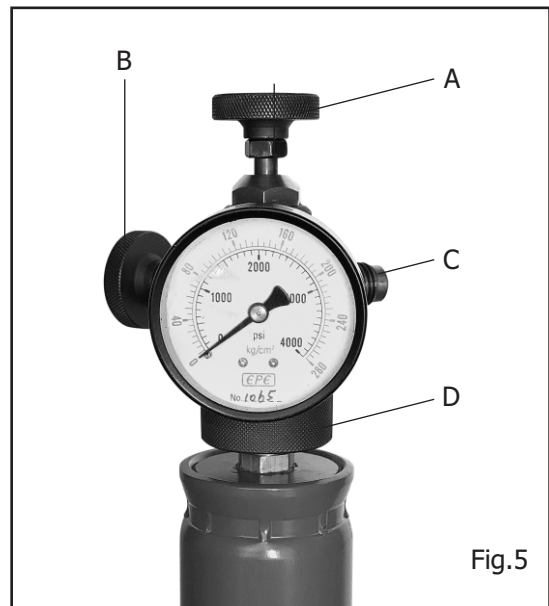
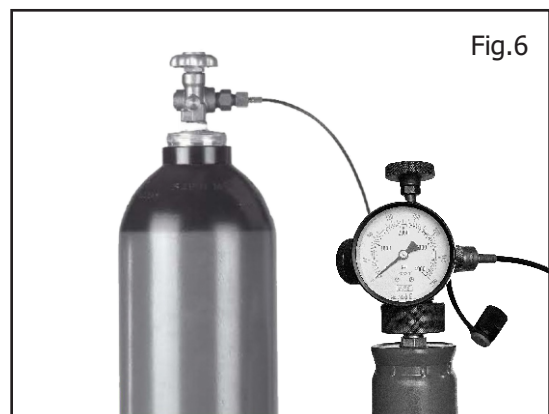

Fig.5
Fig.6
Pre-Loading & Checking Set type-PC (refer Fig.5) is to be used for checking / charging of these accumulators. When charging, the nitrogen bottles must be capable of delivering pressure higher than the desired accumulator gas pressure.
- Prior to the mounting PC/ - equipment ensure that the valve A is unscrewed, that bleed valve B is closed and that non-return valve C is screwed tight. (refer Fig.5)
- Fit the connection to nitrogen cylinder. (refer Fig.5 & Fig.6)